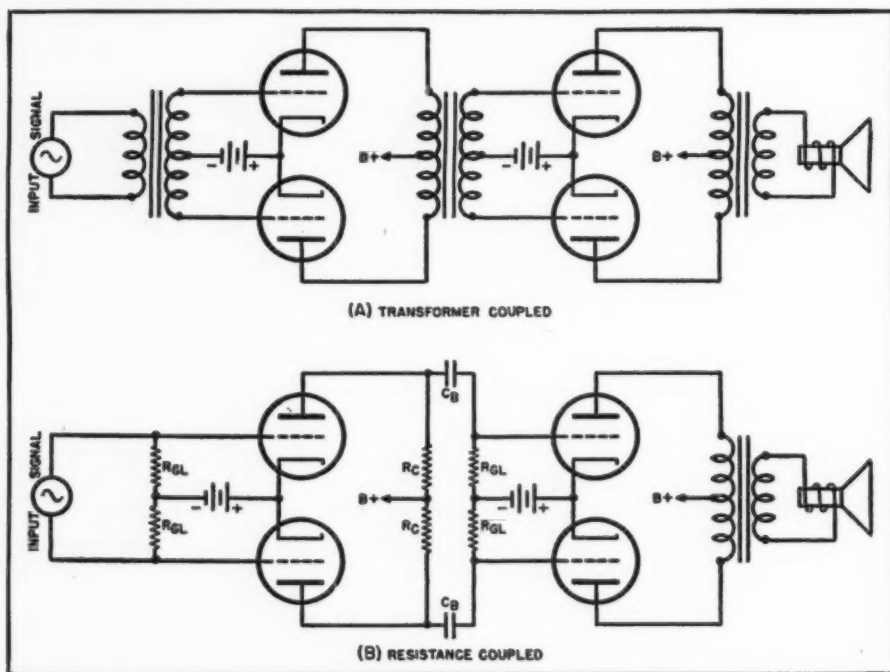

Fig. 4. Transformer and resistance-coupled push-pull stages.
tance, or impedance coupling, as shown at (A) and (B) of Fig. 4. Impedance coupling, of course, is the same as the resistance-coupled arrangement in (B) except that impedance coils replace the plate circuit load resistors ( $R_L$ ).